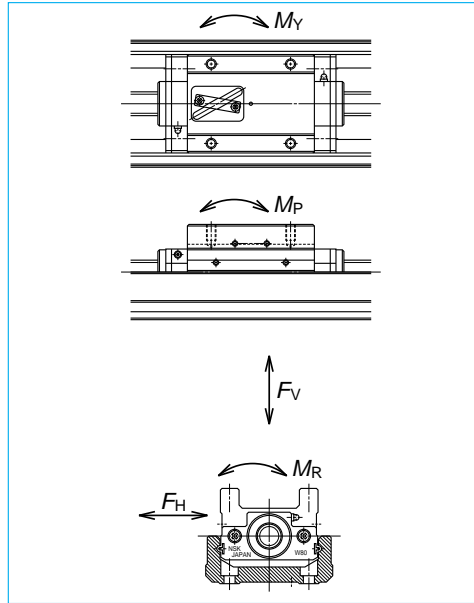

Fig. 4.6 Direction of load
(1) Life of Linear Guide
Study the load to be applied to the linear guide of Monocarrier (Fig. 4.6). The equivalent load (Fe) is determined by substituting the load for equation ① (Eq.② : in case of the tightly coupled double slider type).